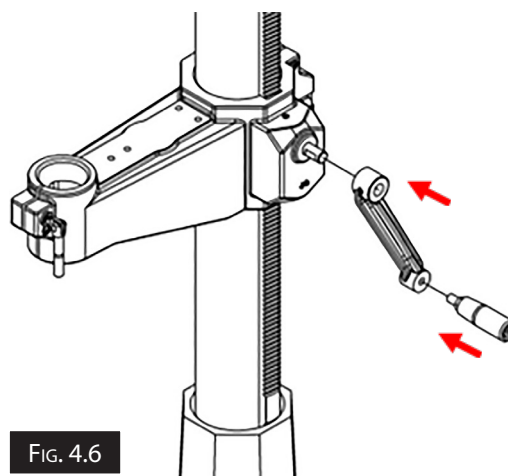

FIG. 4.6
5. Install the crank lever over the pinion shaft, and tighten the setscrew in the crank handle against the flat part of the pinion shaft. (Fig.4.6)